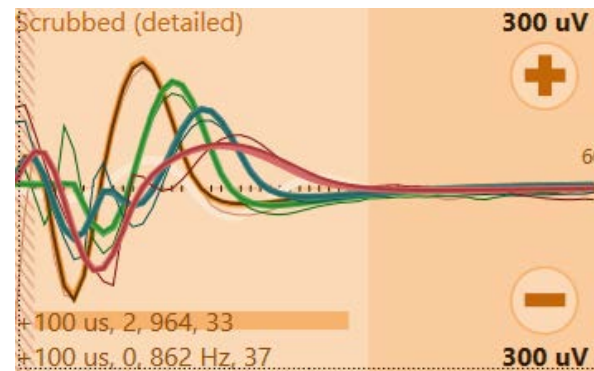

Figure 7.5: ECAP display: A) Raw; B) Scrubbed (simple); C) Scrubbed (detailed); with up to 4 colors representing each measurement configuration.
2. Touch the ECAP display to toggle between three modes of ECAP display (see Figure 7.5): Raw, Scrubbed (simple) and Scrubbed (detailed).